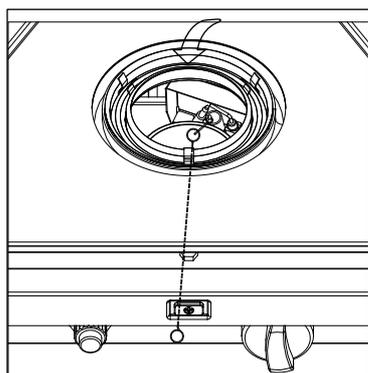

Figure 4
- As you are depressing the control knob, you can manually light with a long stem lighter or the match extension tool (JJ). (Figure 4).